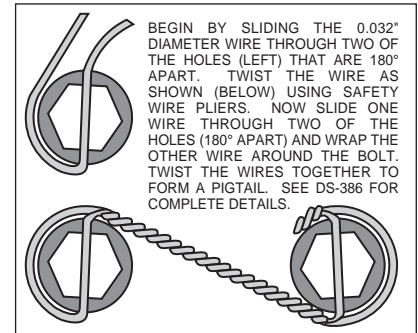
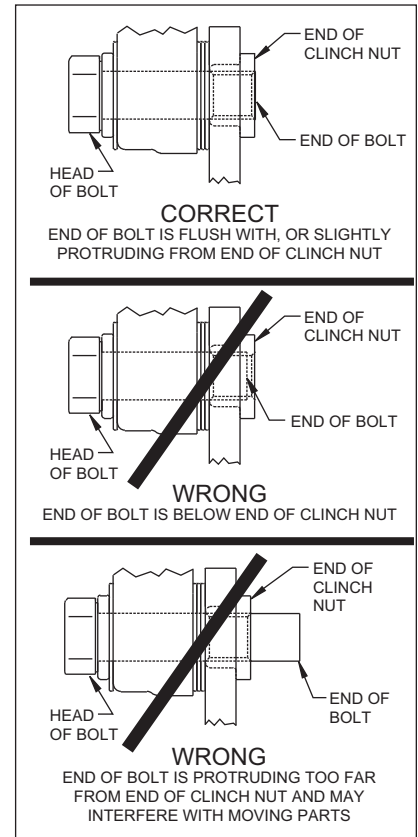

Figure 4. Safety Wire Diagram
Figure 5.
- With the slot pointing upward and the mounting ears pointing towards the rear of the vehicle, install the caliper mounting bracket (1) to the housing flange using the stock Original Equipment Manufacturer (OEM) bolts and nuts. Stock OEM hex nuts that retain the bracket (1) should be on the wheel side of the bracket. Apply red *Loctite*® 271 to the stock OEM bolt threads and torque to OEM specifications. **NOTE:** Some brackets act as the bearing retainers, while others help locate the bearing in the axle housing flange. If the stock bearing plates are still on the axle, the caliper mounting brackets (1) should be located between the axle housing flange and the bearing retainer plate. Make sure the heads of the caliper mounting bracket insert nuts are FACING OUTWARD TOWARDS THE WHEEL.
- Bolt the hat (2) to the rotor (3) using washers (4) and bolts (5). Torque bolts (5) to 180 **in-lb**. Safety wire bolts (5) using standard 0.032 inch diameter stainless steel safety wire as shown in Figure 4. Please refer to Wilwood's data sheet DS-386 (available at www.wilwood.org/ds386.pdf) for complete safety wire installation instructions.
- Align the correct hole pattern in the hat (2) with the stud pattern on the axle flange. **NOTE:** Some OEM and after market axles come with stud sizes larger than 0.50" diameter. Verify stud size and have a qualified machine shop drill the hats to the correct size. Slide the hat/rotor assembly (2 and 3) over the wheel studs and against the axle flange face.
- NOTE: Please reference the caution statement at the beginning of the assembly instructions. WITH THE BLEED SCREWS POINTING UP, mount the caliper (6) over the rotor (3) and onto the caliper mounting bracket (1) using washers (7) and mounting bolts (8). View the rotor through the top opening of the caliper. The rotor should be aligned in the center of the caliper. If not, adjust the caliper by using 0.032 inch shim washers (9), placing them between the caliper mounting bracket (1) and the caliper (6). Add as many shim washers (9) as necessary to achieve the correct alignment. **NOTE:** The end of the bolt must be flush with or slightly protruding from the head of the clinch nut. See Figure 5. Place spare shims (9) between washer and caliper mounting ear to achieve the proper mounting fastener configuration. Always use the same amount of shims on both the top and bottom caliper mounting bolts (8). Apply red *Loctite*® 271 to the mounting bolt threads (8), torque bolts to 30 ft-lb. Safety wire the caliper mounting bolts (8).
- Position the Wilwood disc brake pads (10) into the caliper (6) and fasten with cotter pin (11). Steel backing plate side of brake pad should face the caliper pistons.